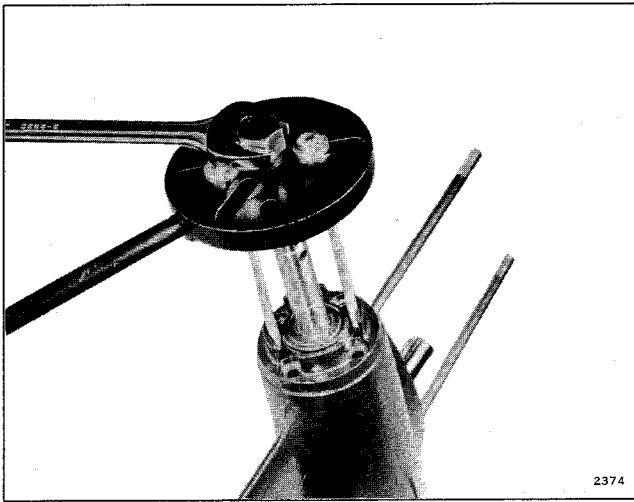

Figure 6-16. Removing Gearcase Head
g. Using flywheel puller (Special Tool #378103) with bolts 1/4 - 20 x 6 inches long, remove gearcase head and bearing. See Figure 6-16.